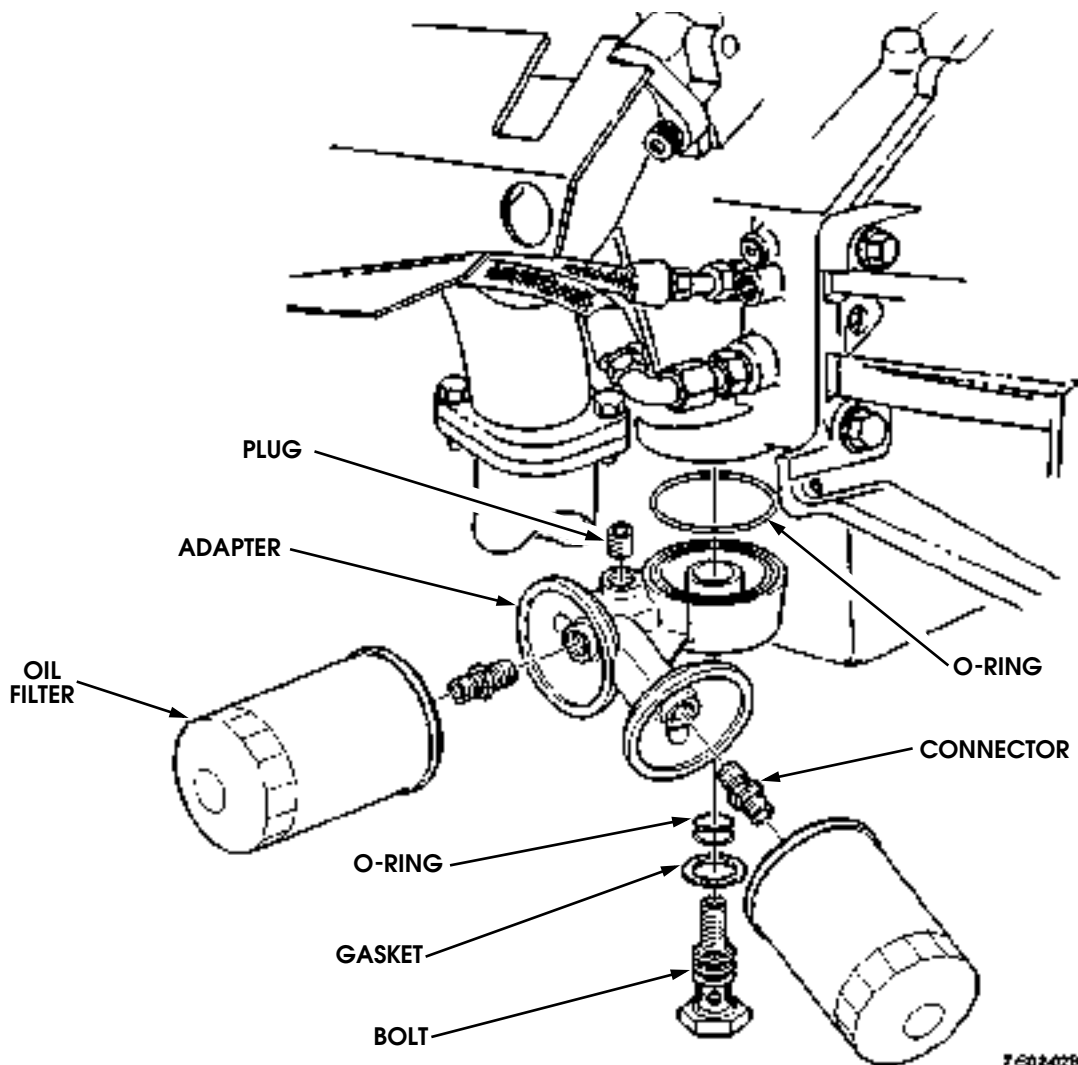

Figure 13-72: Dual Oil Filter Assembly
1. Use pipe thread sealant (Loctite 592) on the threads of the pipe plug and install the pipe plug in the oil filter adapter. Remove any sealant that might have gotten into the oil passage during the pipe plug installation (Figure 13-72).